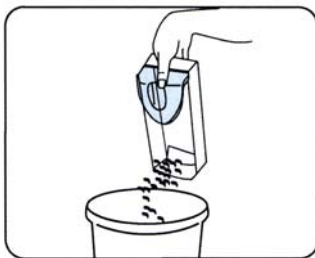

Fig. 6
2. Empty dust container contents. (Fig. 6) If desired- you may rinse with water to clean the dust container - but **dry thoroughly** before replacing on the sweeper.